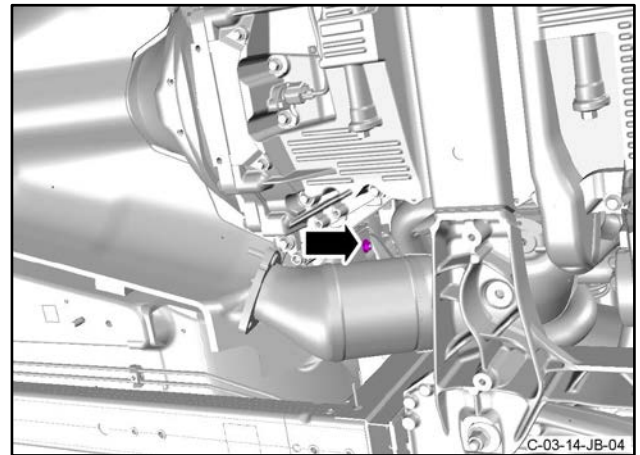

Figure 31
56. Remove the nut that attaches the heat shield for the front floor to the body Figure 31.